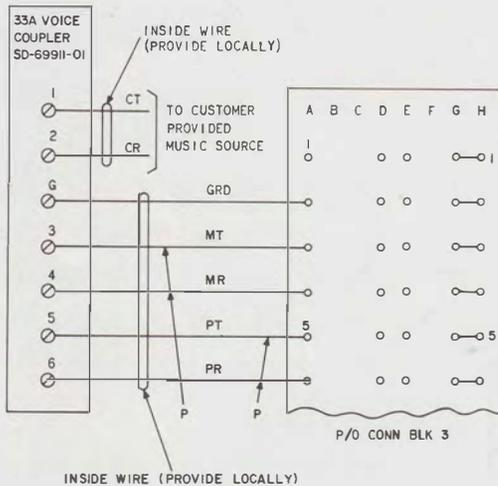

Fig. 38—Connections for 33A Voice Coupler
- (1) Remove cover from voice coupler.
- (2) Mount voice coupler externally to KSU (wherever customer desires).
- (3) Connect voice coupler to 570A KSU as shown in Fig. 38.
(4) Have customer connect voice coupler to his music source as shown in Fig. 38.